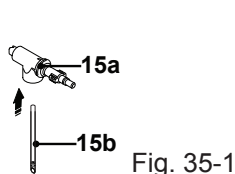

Fig. 35-1
1. Align the suction tube (15b) to sprayer head (15a) and inset it. Ensure it is engaged properly. (Fig. 35-1).